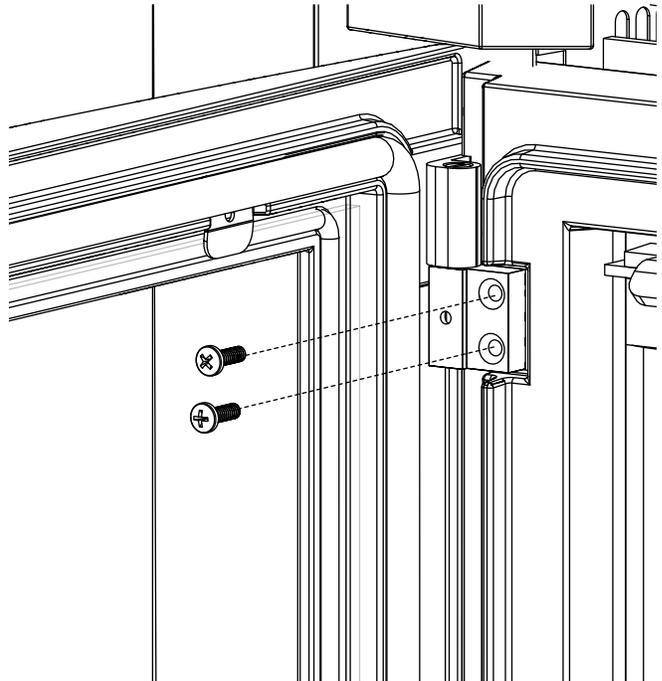

FIG. 1
To remove door, remove the 2 screws from both top and bottom hinges (FIG. 1).
- C. To reinstall the handle support, align the top and bottom screw holes of the latch block to the top and bottom screw holes of the door (FIG 1).
- D. Loosely tighten the top screw and install the 2 pins (FIG 1).